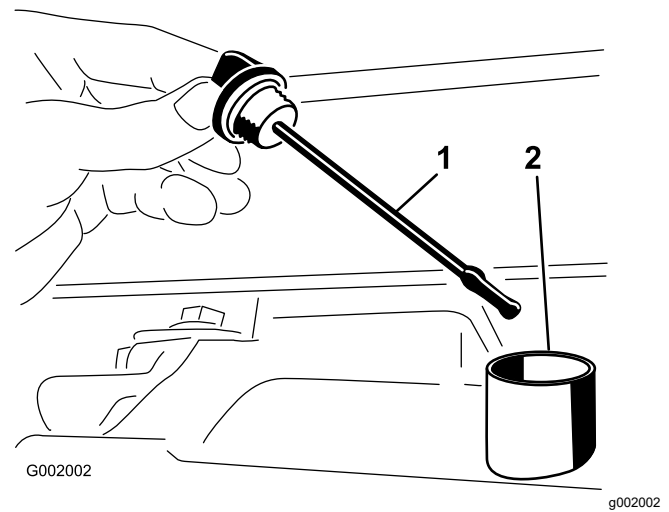

Figure 54
2. Remove the transaxle dipstick and wipe it with a clean rag (Figure 54).